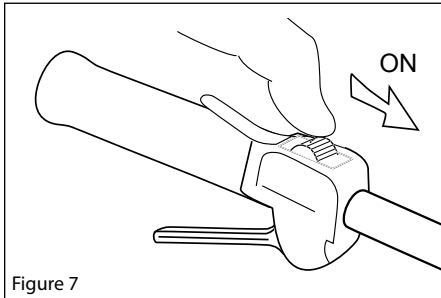

Figure 7
1. Slide the ignition switch to the “I” position. See Figure 7.